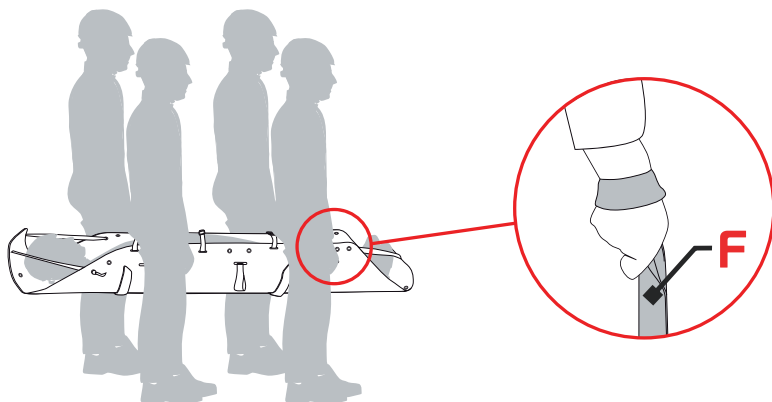

Fig.16
Static resistance Verified by lifting using the side handles (fig. 16):	250 kg
- **Manual transportation (fig. 16)** with the handles (F)